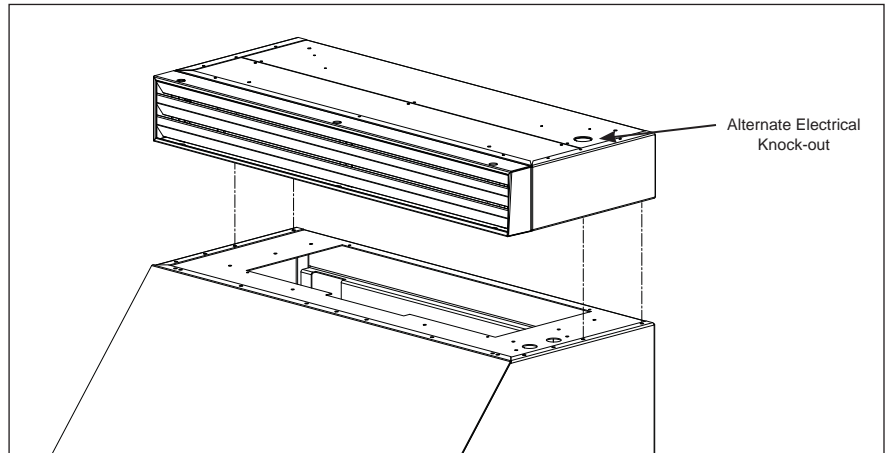

Fig. 1 Recirculating Ventilation Hood
2. Remove grille (according to item 1 in the filter replacement section).
6. Attach recirculating unit to the hood using (4) #8 - 18 x 1/2" self-tapping screws (as shown in Figure 1). Screws are inserted from the inside of the hood.